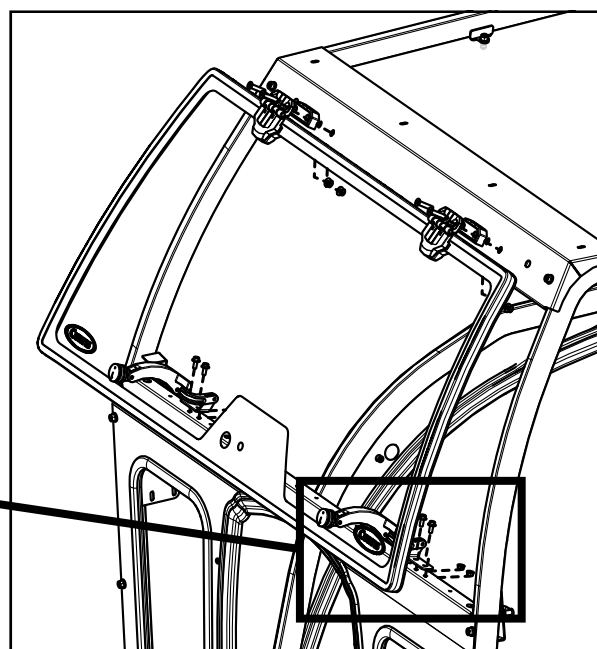

Fig. 9.1 (Windshield Installation)
9.1 Install the windshield to the windshield support using (1) plastic spacer block underneath each upper plastic hinge to space it off the windshield support. Snug fasteners, but **do not tighten fully**. See Fig. 9.1.